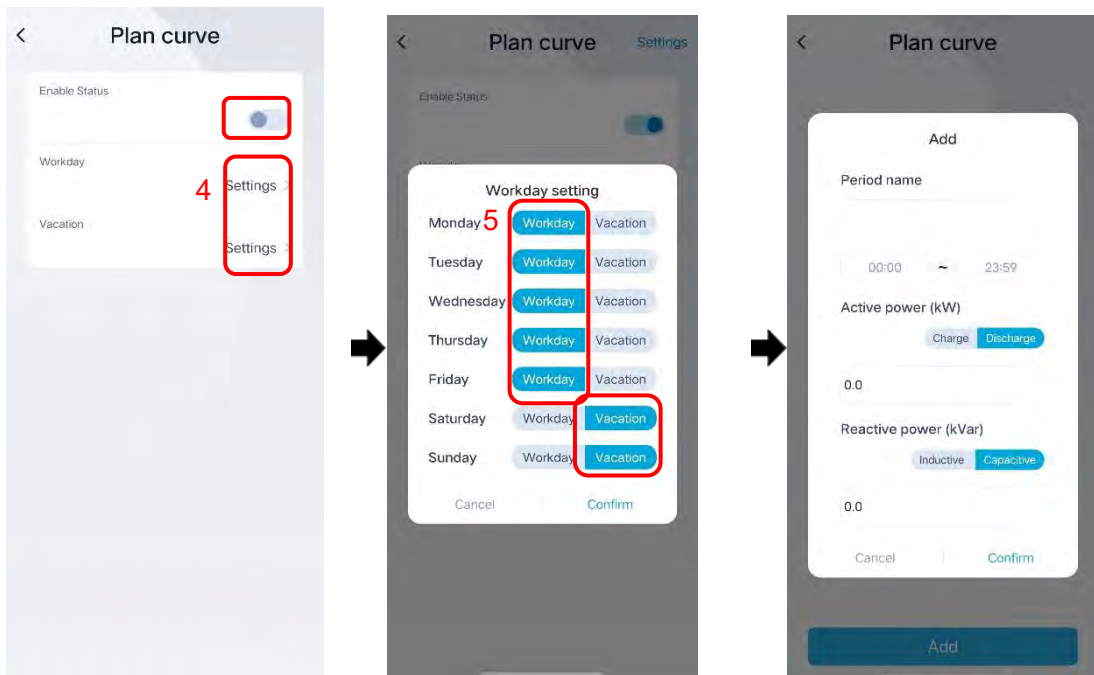

Figure5-19 Setting procedure of plan curve
- Step 1 Tap the **System Details** in home page (as “1” shown in Figure5-19) to enter the system monitoring page.
- Step 2 Tap the bottom icon  (as “2” shown in Figure5-19) to enter the application page.
- Step 3 Select plan curve  (as “3” shown in Figure5-19) to enter the detail setting page.
- Step 4 After enabling the plan curve, tap the setting (as “4” shown in Figure5-19) to arrange the working time of the energy storage system in a week.
- Step 5 Tap the workday and vacation (as “5” shown in Figure5-19) to set the working time, active power and reactive power for the day.
- Step 3 Select power control  (as “3” shown in Figure5-19) to enter the detail setting page.